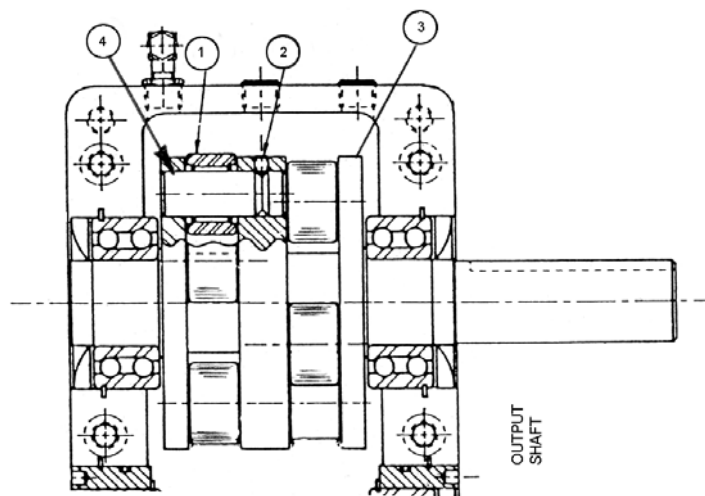

FIGURE 7
- 8.1.4. Follow steps in Figure 7 to remove cam followers from hub assembly.